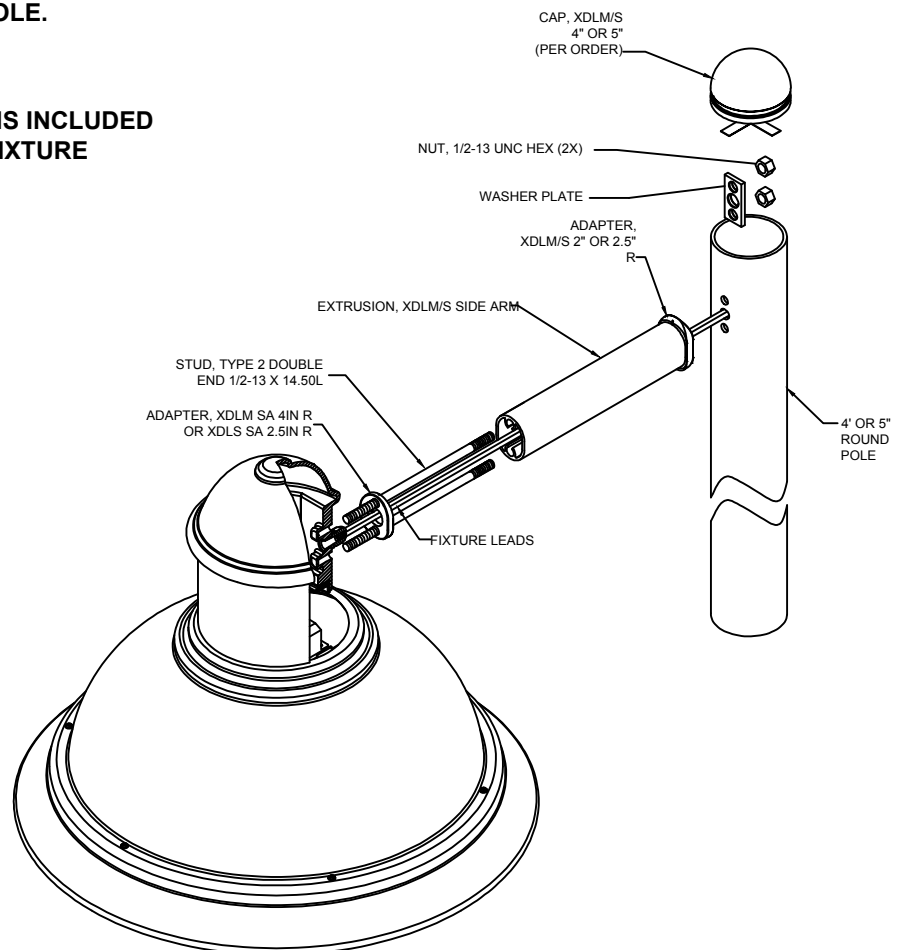

FIGURE 1
2. CAREFULLY FEED LUMINAIRE LEADS THRU ADAPTER, ARM EXTRUSION , ADAPTER, AND POLE. A FISH TAPE MAY BE USED TO AID FEEDING LEADS. INSTALL LOCKWASHERS (2X), & HEX NUTS (2X) AS SHOWN IN FIGURE 1. MAKE CERTAIN ARM IS SQUARE WHEN TIGHTENING 1/2-13 HEX NUTS. TIGHTEN HEX NUTS TO 35-40 FT/LBS TORQUE.
⚠ FASTENERS SHOWN FOR SA ARM MOUNTING MUST BE INSTALLED AS SHOWN IN FIGURE 1 BELOW!